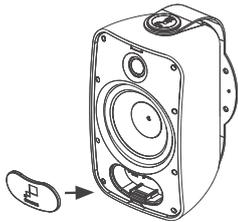

FIGURE 9:
7. Fit the wiring connector cover into the recess in the speaker's front panel. The cover should fit tightly but can be removed and replaced if the speaker needs to be disconnected (see figure 9).